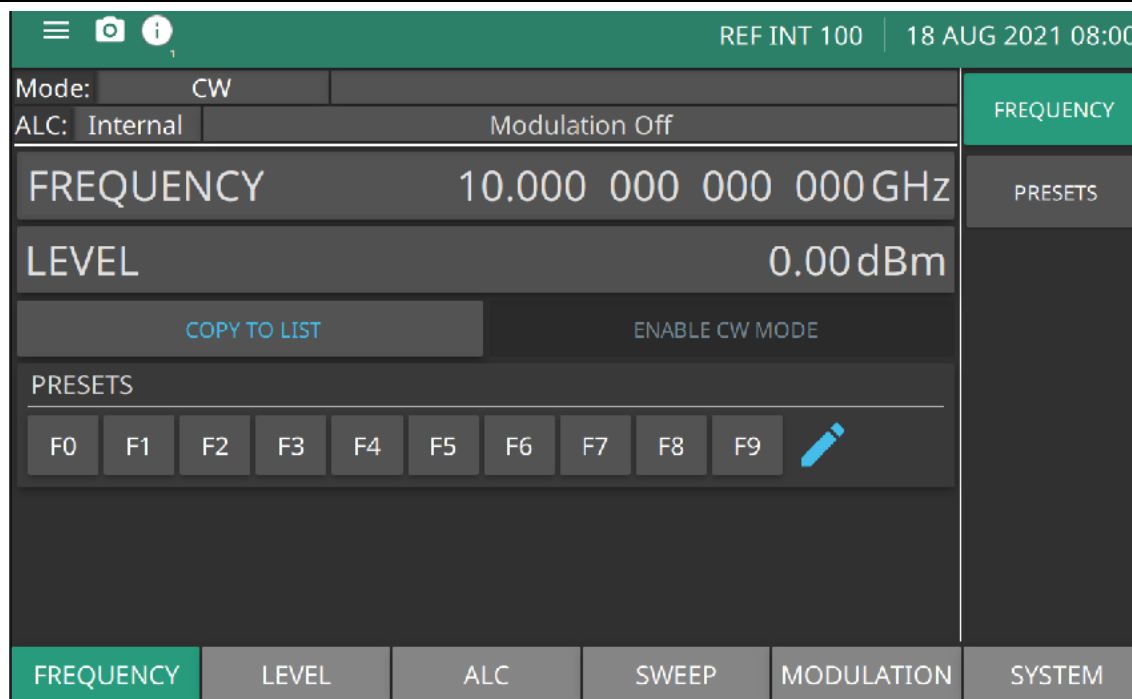

Figure 3-32. FREQUENCY Menu
- a. Press FREQUENCY. The Frequency menu is displayed as shown in Figure 3-32.